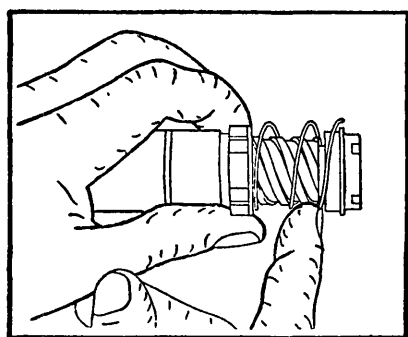

Fig. 2.
2. "Hook" the end of the first finger under the stop nut end of the anti-drift spring, holding the finger at approximately the same angle as shown in Fig. 2.